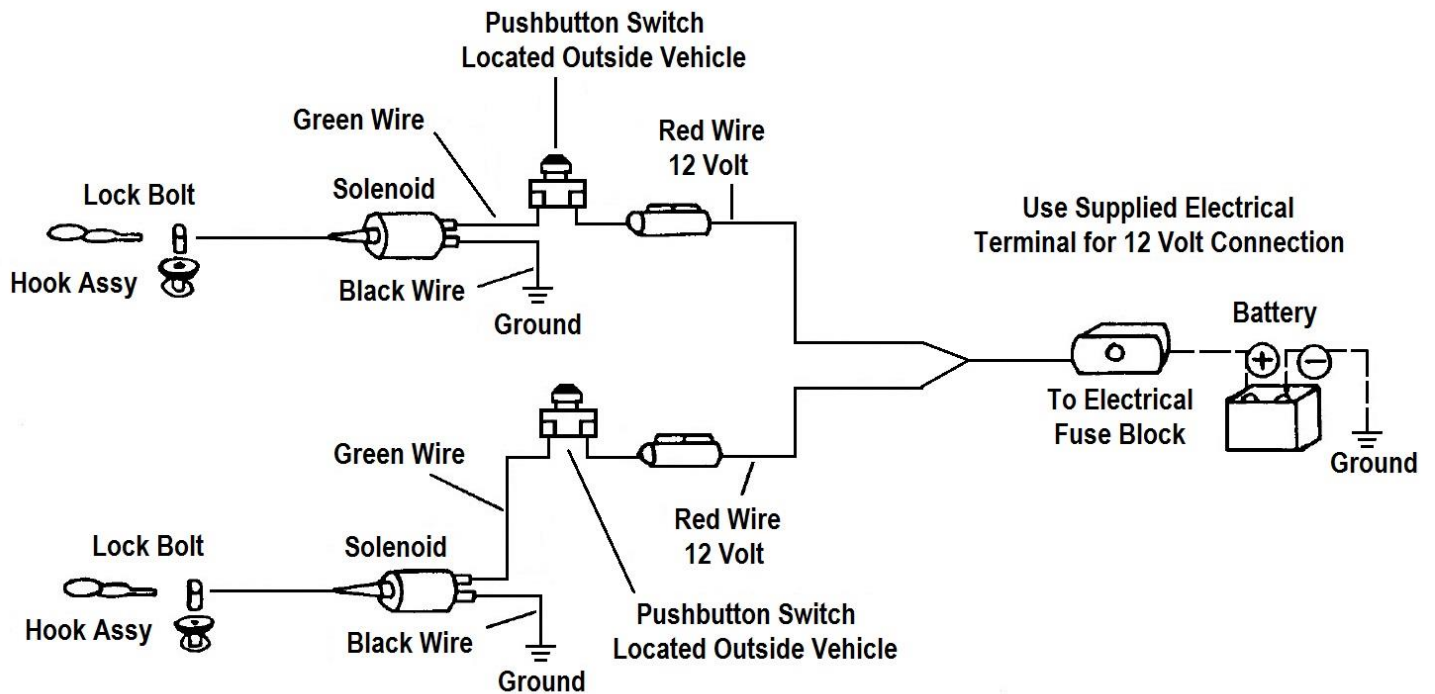

Figure 2 – Electrical Wiring Diagram
The electrical connections are designed and written for wiring two (2) doors. See **Figure 2**.